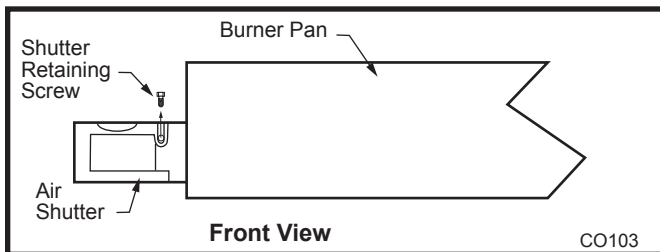

Fig. 71 Remove air shutter from burner pan.
8. Remove both air shutters from burner pan by removing air shutter retaining screw then air shutter. (Fig. 71)